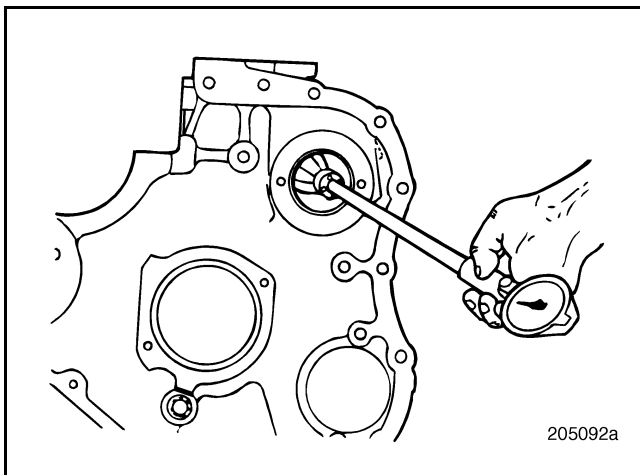

Figure 204 — Auxiliary Shaft Bushing ID Check
1. Using a telescoping gauge or inside micrometer, measure the auxiliary bushing bores. Take two readings, perpendicular to each other, in each bore. Record the readings. Refer to Figure 204.